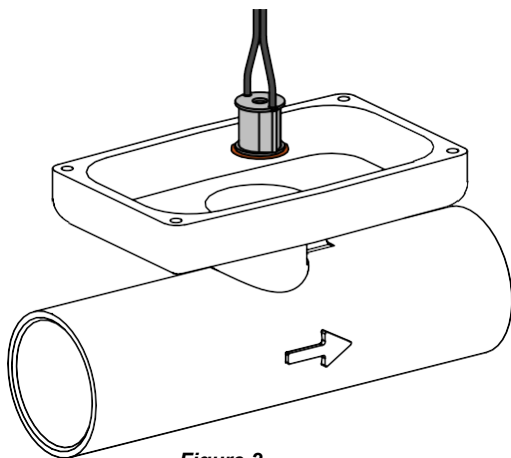
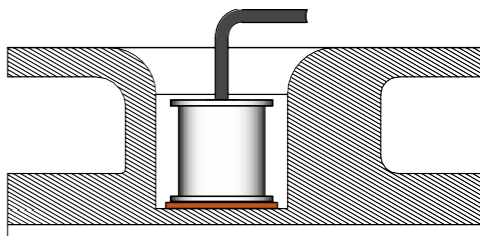

Figure 2
Figure 3
4. Insert the coil / glue dot combo into the coil cavity of the meter housing, visually centered (see Figure 2), until the coil / glue dot contacts the bottom of the cavity (see Figure 3). **NOTE:** The glue dot is permanent adhesive and the coil cannot be maneuvered once contact is made with the cavity bottom. Press firmly on the top of the coil with finger or other object to ensure it is fully adhered to the cavity bottom.